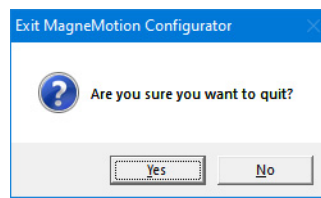

Figure 2-18: Exit MagneMotion Configurator Confirmation Message
*The **Exit MagneMotion Configurator** confirmation message, see Figure 2-18, is displayed.*